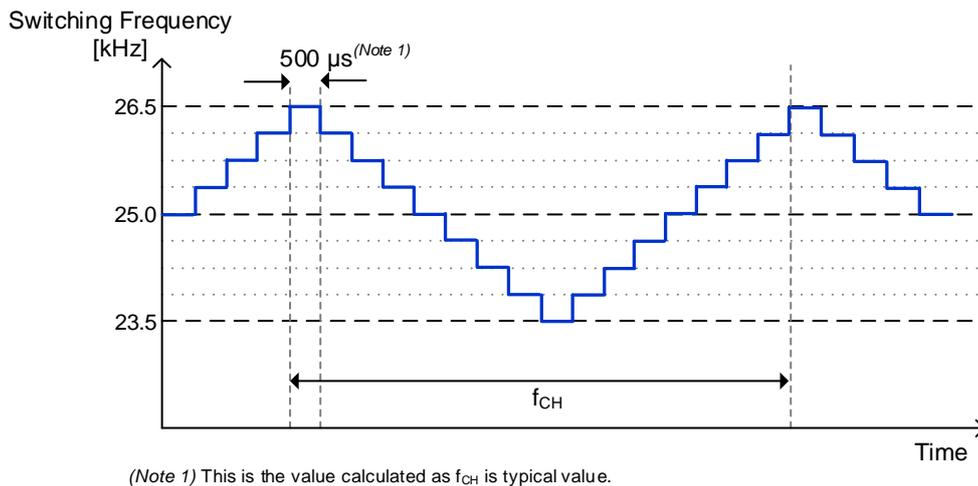

Figure 6. Frequency Hopping Function
- The switching frequency is fixed at f_{SW} by an internal oscillator. It has a built-in frequency hopping function and it makes the switching frequency fluctuate as shown in Figure 6. The hopping fluctuation cycle is f_{CH} .